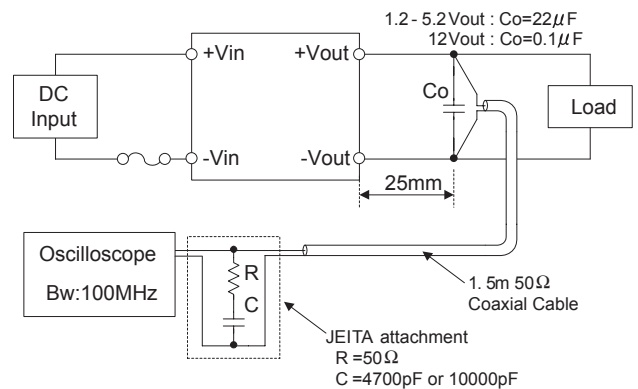

Fig.3.5 Measuring method of ripple and ripple noise
■Ripple and ripple noise are measured, as shown in the Fig.3.5, by connecting C_o and JEITA attachment.